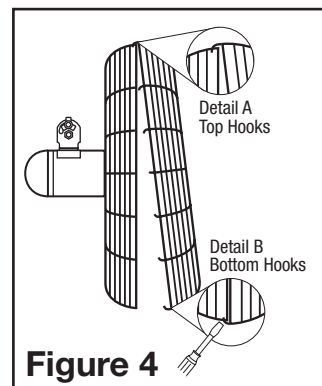

Figure 4
3. Hold the front grill so that the name, in the center, is right side up and straight across. Starting at the top: fasten front grill to rear grill by sliding the hooked wires on the front grill over the outermost ring on the rear grill (Figure 4 / Detail A). The bottom most hooks will require the use of a flathead screwdriver to complete assembly. Stand behind the fan. Slip the flat of the screwdriver between the front and rear grills, next to one of the unfastened hooks (Figure 4 / Detail B). Pull screwdriver handle upwards towards the rear grill. Slip the front grill hook over the rear grill outer ring with a push. Repeat procedure with remaining hooks.